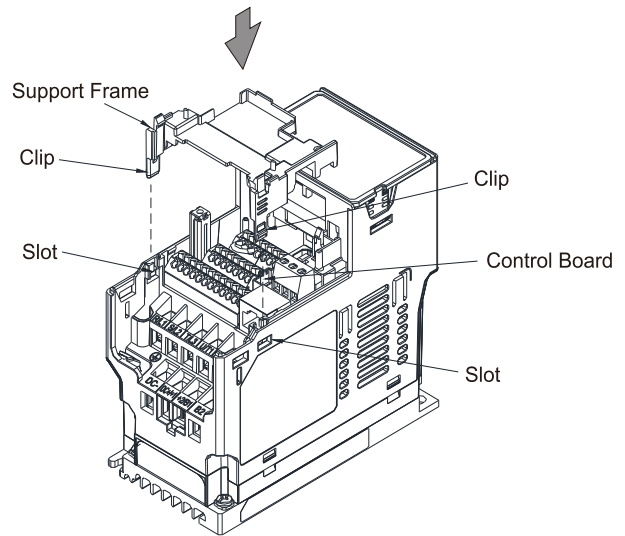

Figure 3-9
3. Assemble the supported frame of the option card: Aim the two clips at the two slots on the motor drive, and then press downward to have the two clips engage the slots, as shown in Figure 3-9.